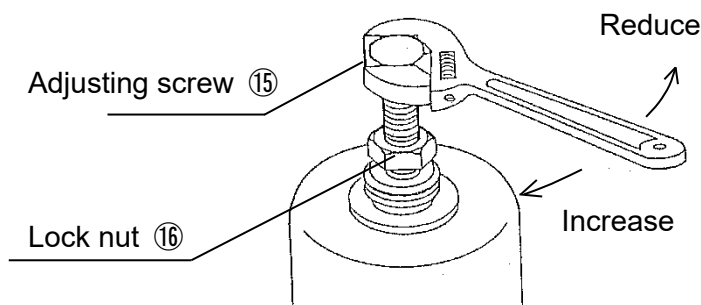

Fig. 13
- (1) Before leading fluid into the product, close the stop valves at the inlet and outlet of the product and remove foreign substances and scale from the piping completely by using a bypass line.
- (2) To adjust the set pressure, turn the adjusting screw slowly.
- (3) If closing outlet side of the product and keeping fluid inside the product for an extended period, sliding parts become stuck and it causes malfunction of the product.
- (4) If there is a possibility of freezing or the product is not used for an extended period, completely discharge fluid from the product and pipes, and close the stop valves at the inlet and outlet sides of the product.
- (5) If the systems have been out of service for a long time, please perform the following operational checks before restarting the systems.
- Check if the set pressure changes when turning the adjustment screw (see Fig. 13).
- (6) In case of secondary pressure for size 65A to 150A is unstable because of an air obstruction or etc. adjust opening of needle valve at detecting pipe. It is fully opened at the time of shipment.
- (7) The set pressure may be affected by ambient temperature (external temperature) and fluid temperature. Install pipes so that the product may not be exposed to direct sunlight.
- (8) Follow the steps below, and slowly turn the adjusting screw to set pressure. Incorrect adjustment may cause hunting, water hammer, etc., resulting in damage to the valve and other equipment.
- (1) Close the stop valves at both sides of the valve, and thoroughly purge the system through the by-pass line. When completed, be sure to close the by-pass valve.
- (2) Loosen the lock nut [16] (see Table 11).
- (3) Slowly open the inlet stop valve, then fully open the outlet stop valve, allowing a trickle to be discharged.
- (4) Slowly turn the adjusting screw [15] (clockwise to increase, counterclockwise to reduce) while observing the pressure gauge on the inlet side (see Fig. 13).
- (5) After the adjustment, tighten the lock nut [16].